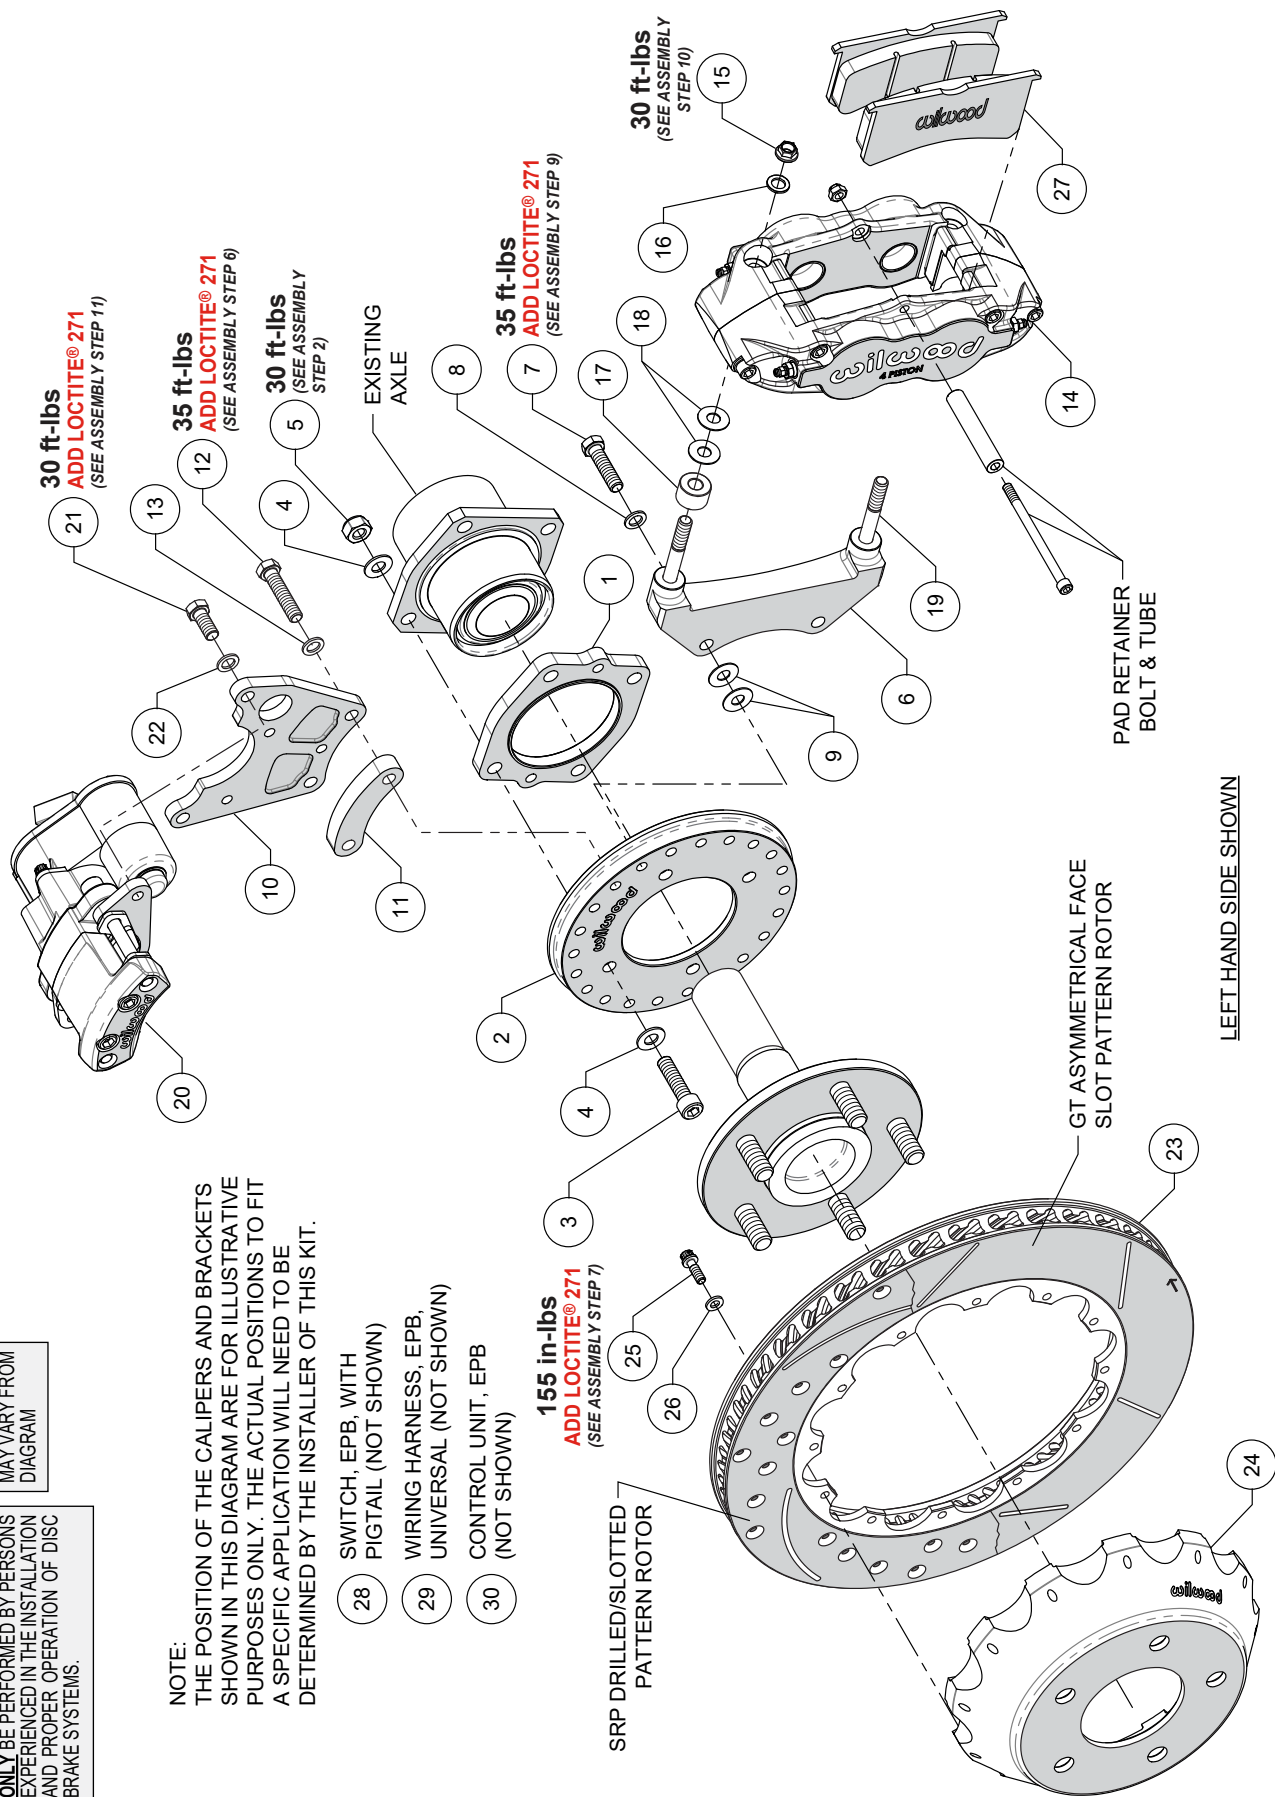

Figure 1. Typical Installation Configuration
**NOTE:** Numbers in parenthesis refer to the parts list and Figure 1 on the preceding pages.
**STEP 1** Slide the backing plate spacer (1) onto the axle housing as shown in Figure 1 and Photo 1. **NOTE:** Ensure the spacer fits flush against the axle flange.
**STEP 2** Orient the backing plate (2) as shown in Figure 1 and Photo 2 and mount it to the axle housing flange using bolts (3), washers (4), and lock nuts (5). Ensure the backing plate fits flush against the spacer (1). Torque lock nuts (5) to value shown in Figure 1. Reinstall the axle into the axle housing.
**STEP 3** Start by determining the best location for the service caliper (14). This caliper is usually mounted in the 3:00 or 9:00 o'clock position, but may be rotated up or down approximately 45 degrees and still allow for proper bleeding, Photo 3. Orient the service caliper bracket (6) as shown in Figure 1 and Photo 4. Install bracket (6) to the backing plate (2) in the desired location using bolts (7), washers (8), and two .035" shims (9) placed between the bracket and backing plate, Figure 1. Temporarily tighten bolts. Next, mount the service caliper to the bracket (6) using lock nuts (15) and washers (16). Temporarily tighten bolts. Check that the caliper (including inlet fitting and hose) has sufficient clearance to all surrounding components through the full suspension travel. Relocate the caliper/bracket on the backing plate as needed to ensure proper clearance is achieved.
**STEP 4** Determine the best location for the EPB caliper (20). **NOTE:** The EPB caliper motor extends farther inboard than the service caliper and therefore needs additional consideration when determining a mounting location with sufficient clearance. In the example application shown in Photo 5, the EPB caliper has sufficient inboard clearance to the leaf spring. However, if the EPB caliper were mounted closer to the 12:00 o'clock position, the inner body of the vehicle would hit the caliper during full compression of the suspension.
**STEP 5** Orient the EPB caliper bracket (10) as shown in Figure 1. Install to the backing plate (2) in the desired location using bolts
(12), washers (13), and spacer (11), Figure 1 and Photos 6 and 7. Temporarily tighten bolts. **NOTE:** The EPB bracket is reversible. In one direction the bracket will position the EPB caliper closer to the service caliper, and vice versa if reversing the bracket. Next, mount the EPB caliper (20) to the bracket (10) using bolts (21) and washers (22). Temporarily tighten bolts. **NOTE:** EPB calipers are left and right handed, however they can be used on either side of the vehicle to best suit your specific application. Check that the EPB caliper (including wiring harness connector) has sufficient clearance to all surrounding components through the full suspension travel. Relocate the EPB caliper/bracket on the backing plate (2) as needed to ensure proper clearance is achieved.
**STEP 6** Once the caliper positions have been determined, remove both the service (14) and EPB (20) calipers, leaving both brackets in place on the backing plate. Remove the EPB bracket bolts (12) one at a time, apply red *Loctite*® 271 to the threads, and torque to value shown in Figure 1.